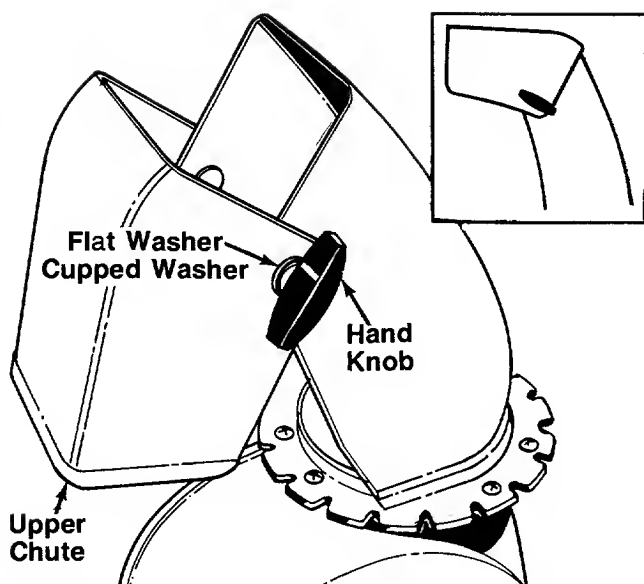

FIGURE 3.
← See figure 3.
2. Pivot the upper chute up so there is no gap between the upper and lower chute. See figure 3, inset. Secure with hardware just removed.